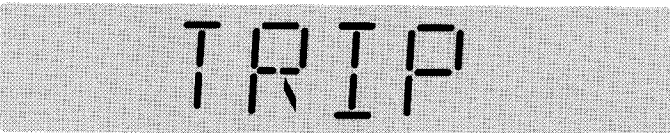

Figure 4-20 Trip Test Display
- Step 5:** Once **Phase** or **Ground** has been selected and is correctly displayed, use the **Next** pushbutton and **Trip** will be displayed (Figure 4-20). A choice is now offered between a **Trip** or a **Non-Trip** test.